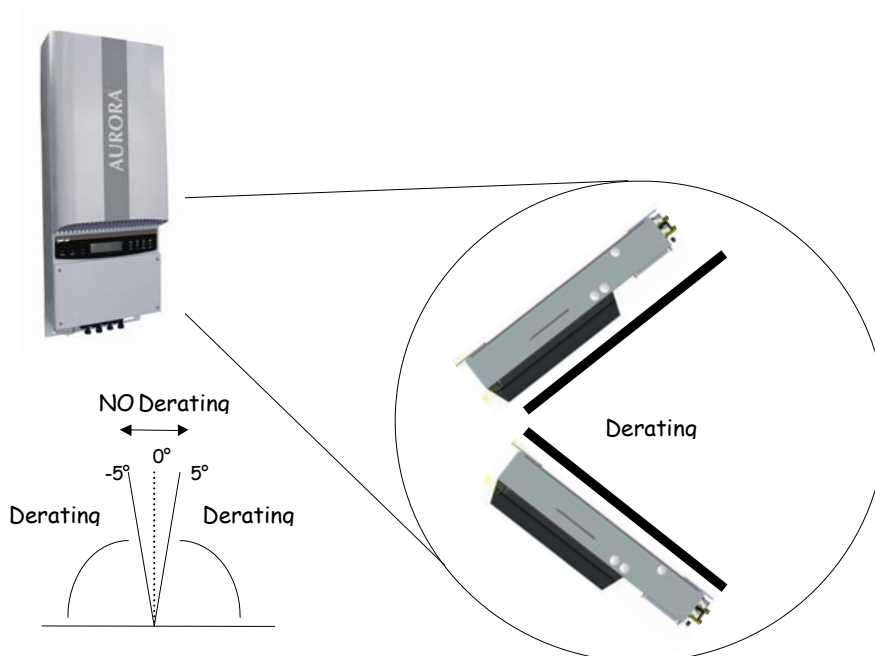

Fig.8 Tilted mounting
**NOTE:** Although tilted mounting is allowed (see Fig. 8) it will cause increased power dissipation and may result in output power derating.